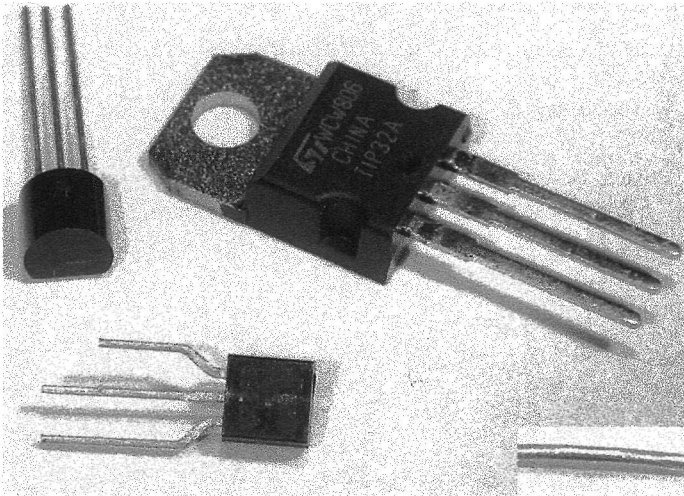

Figure 12.3
- Transistors: three wire legs supporting a small black plastic blob or metal can (see Figure 12.3).